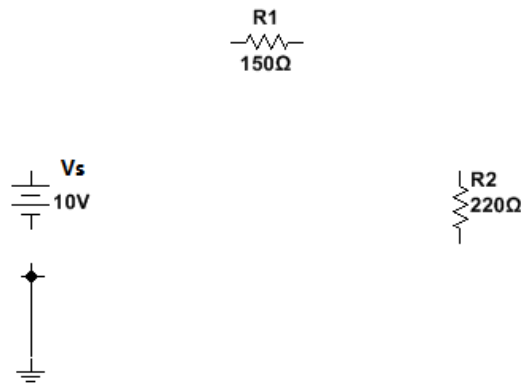

Figure 4.10 – First connection of ground component.
- Place the mouse cursor on the terminal of the *Ground* and click. Once it is clicked, a wire appears from the ground’s terminal. Check Figure 4.10